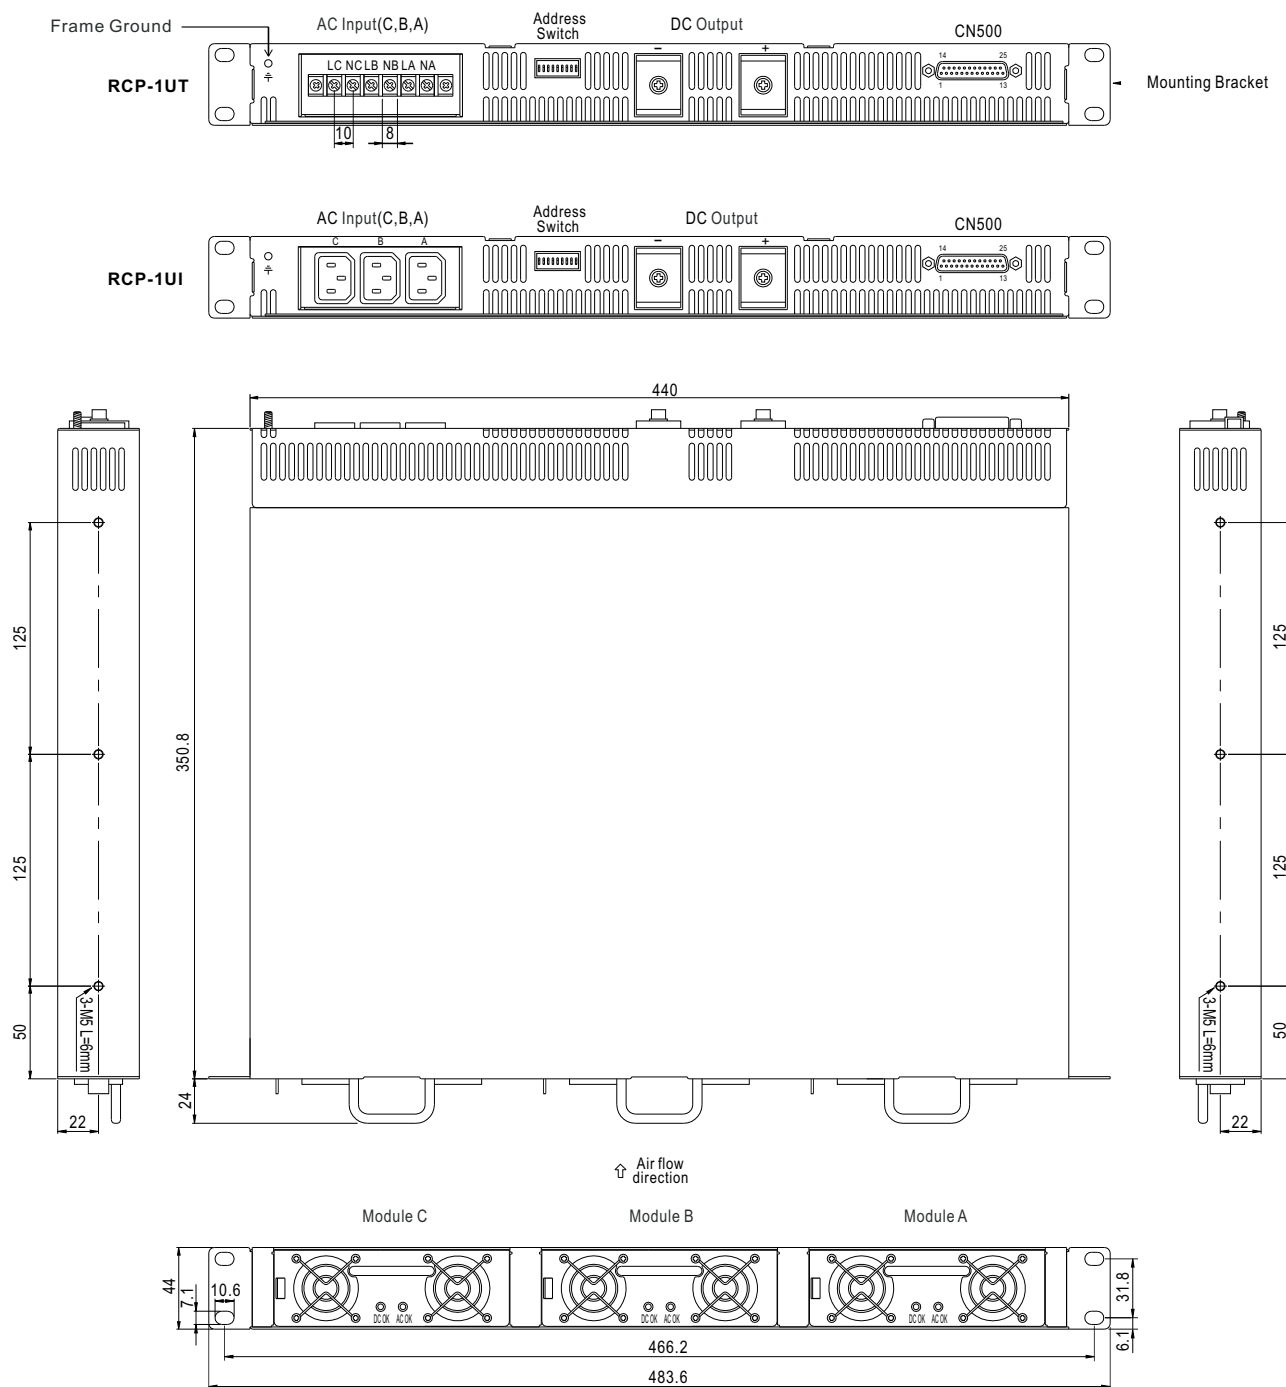

Figure 4-1: System assembly diagram of RCP series
- ◎ Insert 1~3 pieces of RCP-1000 (with the same output voltage and current) into the RCP-1U□ (refer to Figure 4-1).
- ◎ Definition of module position: A is on the right, B is in the middle, and C is on the left (refer to Figure 4-1).